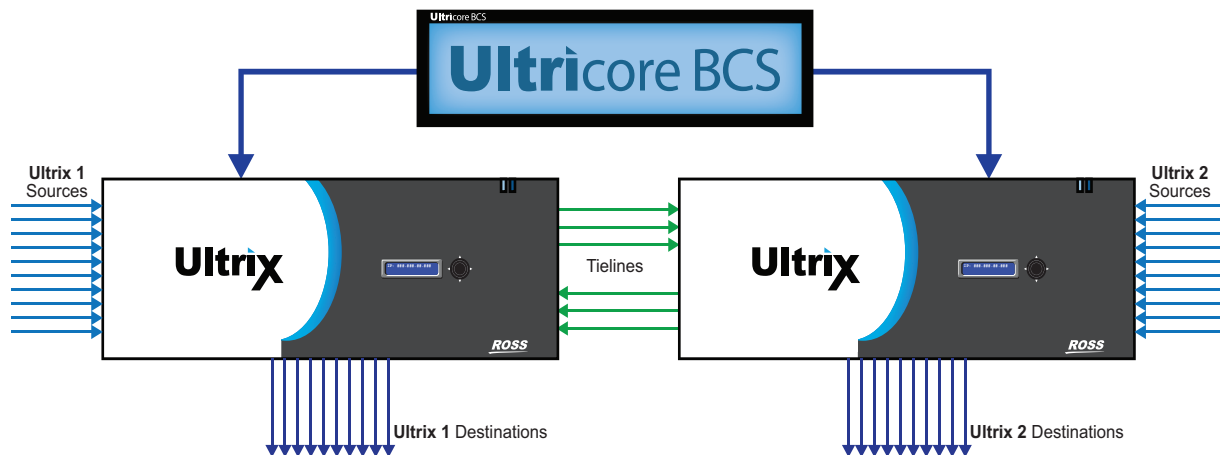
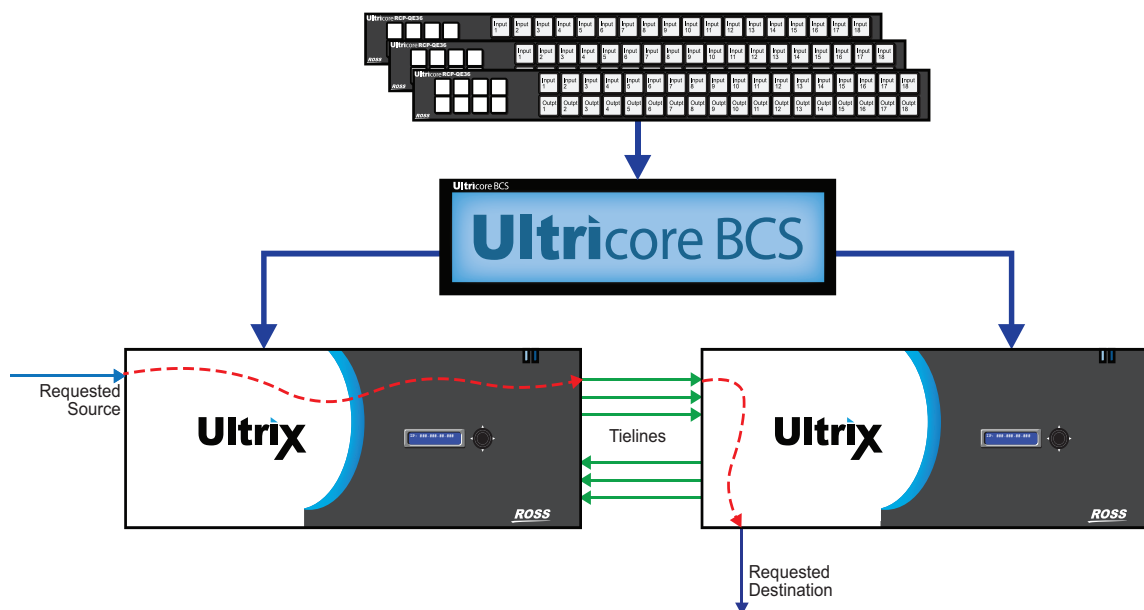

Figure 37 Example of a Distributed Routing System Work Flow with Tielines
Figure 38 Example of Tielines in a Work Flow
**Figure 37** represents a two-way tieline connection between routers where one (or more) outputs of Ultrix 1 are connected to the inputs of Ultrix 2, and one (or more) outputs of Ultrix 2 is connected to the inputs of Ultrix 1.
**Figure 38** illustrates a work flow where Ultrix 2 needs a source that is only present on Ultrix 1. The Ultracore BCS routes the requested source to a destination that is configured as a tieline, and on Ultrix 2, it will route the tieline source to the user selected Destination.
★ Tielines do not have to be bi-directional as represented in **Figure 37** and **Figure 38**.
In **Figure 38** the following occurred: